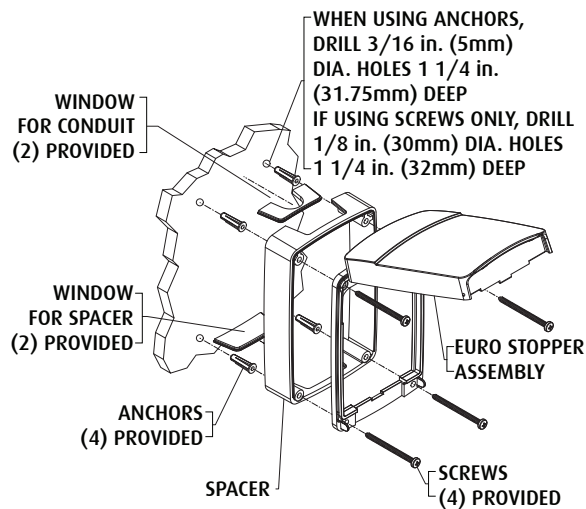

Fig. 1
1. Position the Euro Stopper® over the device to be protected, open the front cover of the Euro Stopper® and mark the position for the four (4) mounting screws.
2. Drill holes and attach the Euro Stopper® to the wall using the screws provided. See Fig. 1 for drill sizes.